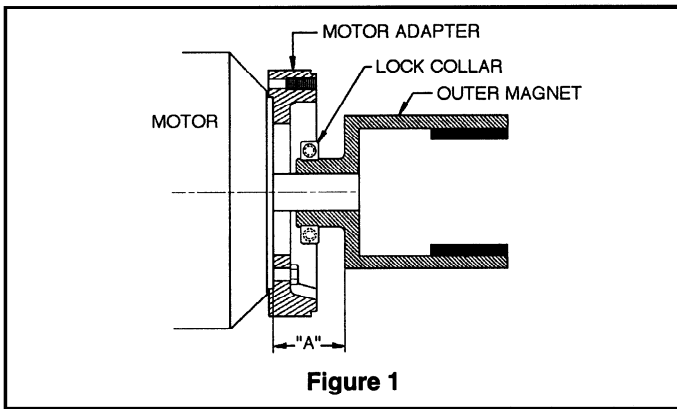

Figure 1
1. Place the motor adapter (86) against the motor "C" face. The adapter capscrews will be installed after the outer magnet is secured.
2. Install the magnet lockcollar (87) over the hub of the outer magnet (53). Slide the magnet ring over the motor shaft assembly to the Set & Clamp "A" dimension indicated in Figure 1 and Table 1. "A" = Motor bolt face to back of outer magnet.